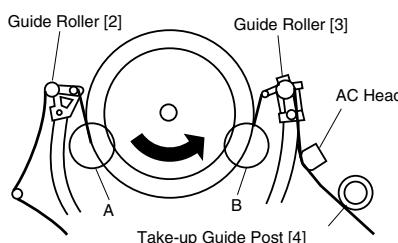
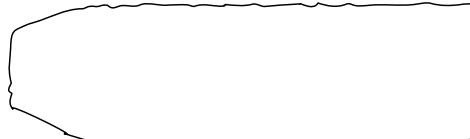
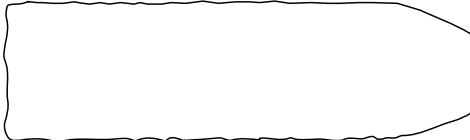
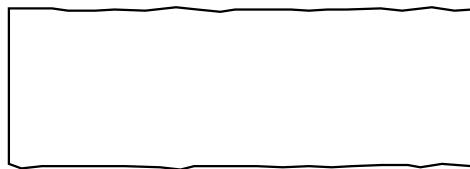

Fig. M3
Fig. M7
Fig. M8
Fig. M9
1. Play back a blank cassette tape and check to see that the tape runs without creasing at Guide Rollers [2] and [3], and at points A and B on the lead surface. (Refer to Fig M3 and M4.)
2. If creasing is apparent, align the height of the guide rollers by turning the top of Guide Rollers [2] and [3] with a Guide Roller Adj. Screwdriver. (Refer to Fig. M3 and M5.)
3. Check to see that the tape runs without creasing at Take-up Guide Post [4] or without snaking between Guide Roller [3] and AC Head. (Fig. M3 and M5)
2. Play back the Gray Scale on the Alignment Tape (FL8N). Set the Tracking Control Circuit to the center position by pressing the CH UP and then the PLAY button on the VCR. Adjust the height of Guide Rollers [2] and [3] (Fig. M3, Page 2-3-3) watching the oscilloscope display so that the envelope becomes as flat as possible. To do this adjustment, turn the top of the Guide Roller with the Guide Roller Adj. Screwdriver.
3. If the envelope is as shown in Fig. M7, adjust the height of Guide Roller [2] (Refer to Fig. M3) so that the waveform looks like the one shown in Fig. M9.
4. If the envelope is as shown in Fig. M8, adjust the height of Guide Roller [3] (Refer to Fig. M3) so that the waveform looks like the one shown in Fig. M9.
5. When Guide Rollers [2] and [3] (Refer to Fig. M3) are aligned properly, there is no envelope drop either at the beginning or end of track as shown in Fig. M9.
Note: Upon completion of the adjustment of Guide Rollers [2] and [3] (Refer to Fig. M3), check the X Value by pushing the CH UP or DOWN buttons alternately, to check the symmetry of the envelope. Check the number of pushes to ensure center position. The number of pushes UP to achieve 1/2 level of envelope should match the number of pushes DOWN from center. If required, redo the "X Value Alignment."